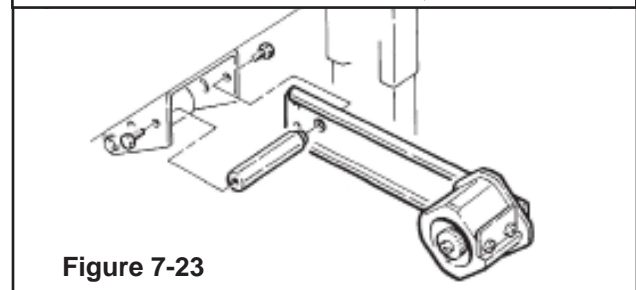

Figure 7-23
- 4 - Install and secure tape drum bracket assembly on the entry end of the lower frame (as shown in **Figure 7-23**).